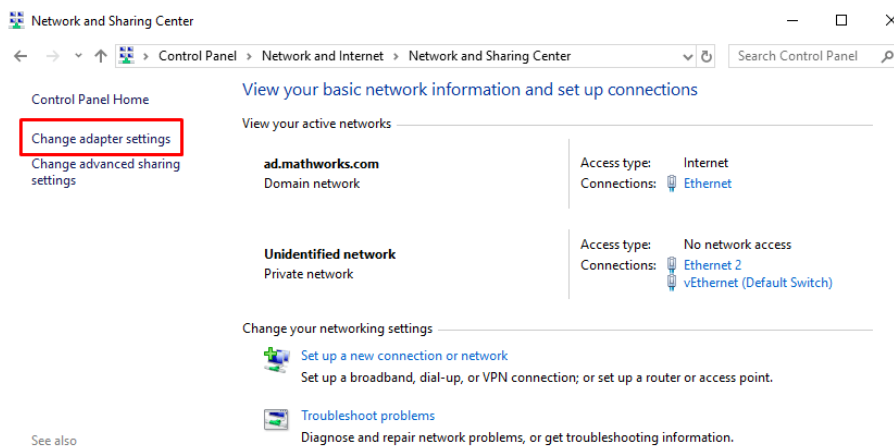

Figure A.3: Changing the adapter
**Step 3** Click on the “Change adapter settings” option (Figure A.3).